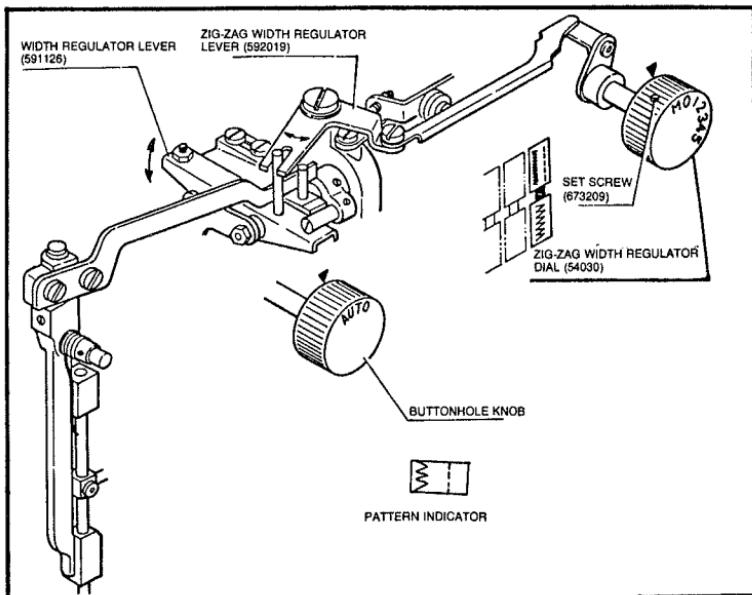

Fig. 6-16. Correcting a wavering straight stitch on the New Home Model 592.
To minimize the needle bar swing when straight stitching on the Model 592, proceed as follows (Fig. 6-16):
- Set the zig-zag width regulator dial at 0. Set the buttonhole knob at AUTO, and the pattern indicator as shown in Fig. 6-16.
Setting Needle Bar Height. When the hook is at the left edge of the needle, the height of the needle should be such that the *vertical* distance between hook point and the top of the needle is not so great that the hook will miss the thread loop (about 2mm to 2.5mm is correct). To make this adjustment, loosen the set screw that secures the needle bar (Fig. 6-16), and move the needle bar up or down, as appropriate. When the adjustment is complete, tighten the set screw.